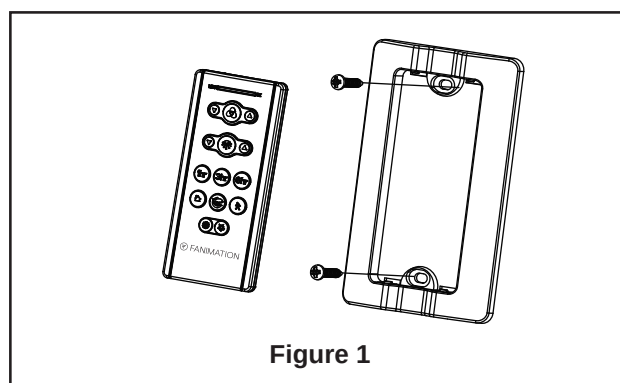

Figure 1
- ☐ 1. **Installing Wall Holder:** (Figure 1)